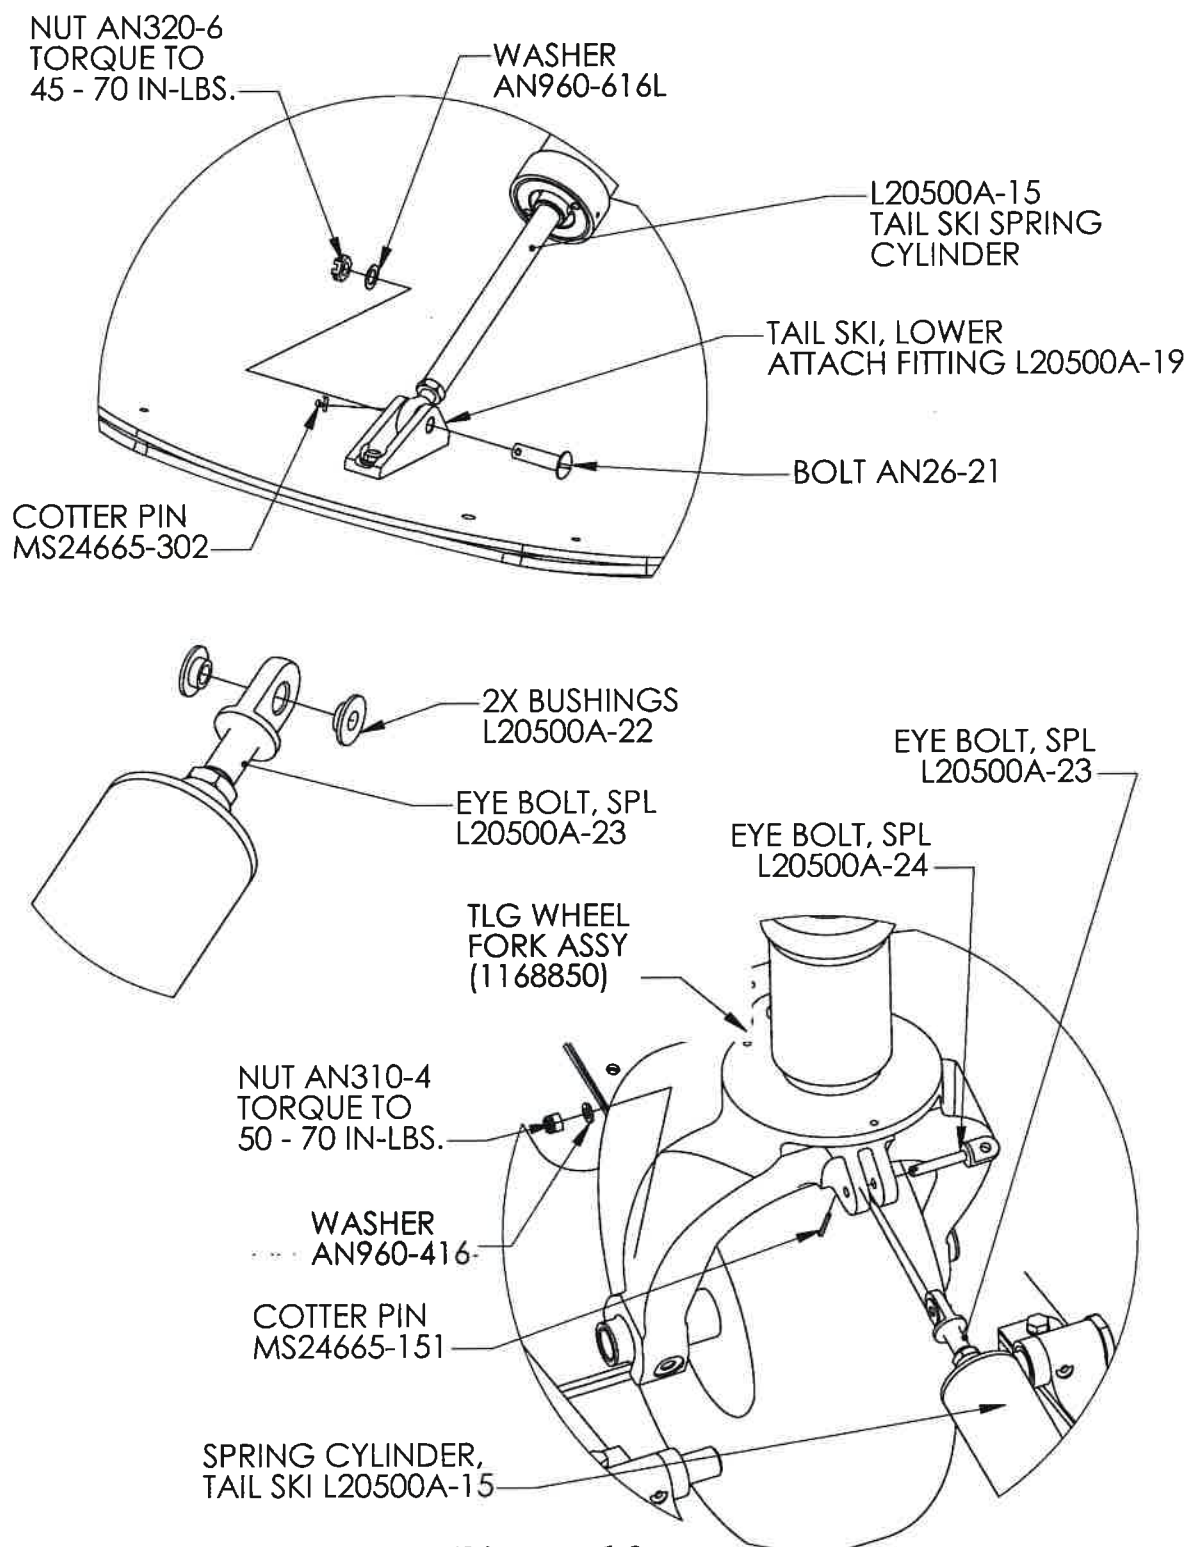

Figure 6.2
31. Attach Spring Cylinder, Tail Ski (L20500A-15) to Tail Ski, Lower Attach Fitting (L20500A-19) with Bolt (AN26-21), Washer (AN960-616L) and Nut (AN320-6). Secure Nut with Cotter Pin (MS24665-302). *See Figure 6.2* TORQUE VALUE
32. Insert Bushings (L20500A-22) into 3/8 hole in Eye Bolt, SPL (L20500A-23) one from each side. *See Figure 6.2*
33. Hold the Spring Cylinder in one hand, lift the front of the ski, and position the upper Eye Bolt (L20500A-23) so that the Eye Bolt is lined up with the Bushings and tlg wheel fork assy lugs 1168850. Insert Eye Bolt (L20500A-24) Affix Washer (AN960-416) and Nut (AN310-4). Instl MS24665-151 cotter pin. *See Figure 6.2*